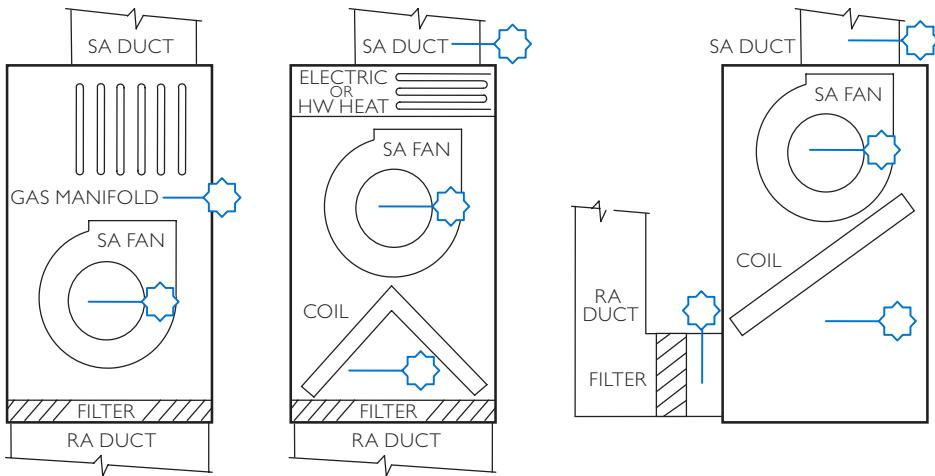

FIGURE 2 – SUGGESTED MOUNTING LOCATIONS IN A TYPICAL AHU OR FURNACE
- 3.** If the unit cannot be installed in the preferred location due to space or temperature limitations, see Figure 2 for alternate locations. Units can be installed using "L" shaped brackets available from many hardware suppliers.